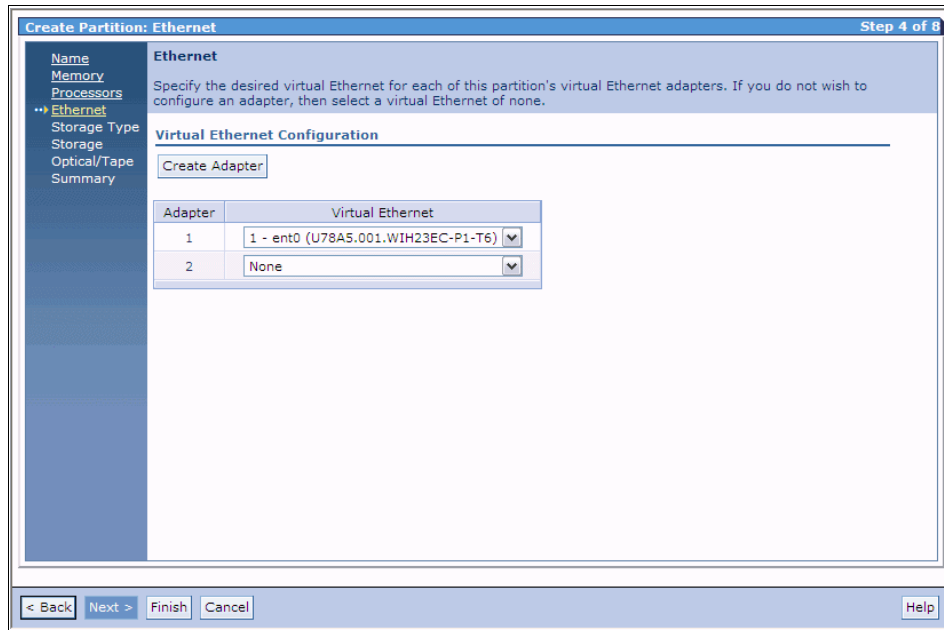

Figure 5-15 Ethernet selection for a shared memory partition
4. The next configuration step is Ethernet selection. As shown in Figure 5-15 on page 198 the only options are virtual Ethernet adapters. In this example we are using an existing Share Ethernet Adapter (SEA). Click on the **Next** button to continue to the storage options.